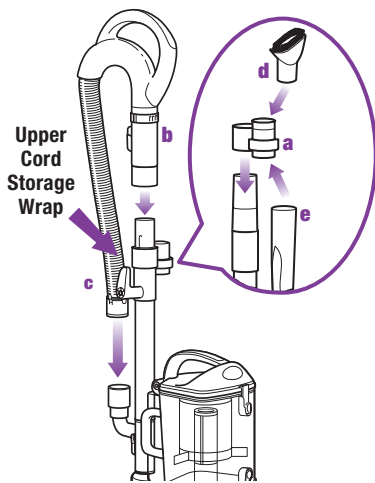

Fig. 10
- 4 Slide the accessory holder **(a)** positioned opposite the upper cord wrap, over the extension wand. Align the tab with the groove and push down. **(Fig. 10)**
- 5 Push the handle **(b)** onto the top of the extension wand until you hear it click into place. **(Fig. 10)**
- 6 Insert the end of the stretch hose **(c)** into the connector on the back of the detachable canister. **(Fig. 10)**
- 7 Store the dusting brush **(d)** and the crevice tool **(e)** on the mounts of the accessory holder. **(Fig. 10)**